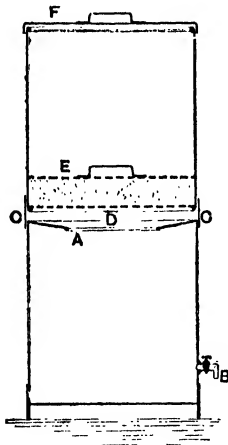

Fig. 486.—Oil Filter.
**Oil Filters.**—A simple oil filter may be made from two clean meat tins placed one above the other; in the upper tin, with a bradawl, punch a number of small holes, and over these spread a piece of flannel. A filter may be made from two tinplate vessels like a pan and steamer, the upper one fitting in a rim in the lower one, while a piece of flannel placed between the two vessels will serve to filter the oil. It may not clarify the oil perfectly at first, but will soon get into working order. A waste oil filter either can be an expensive article, or can be made from two empty tins as in Fig. 486. Make a  $4\frac{1}{2}$ -in. hole in the top of one as at A; solder a small cock B, or a piece of  $\frac{1}{2}$ -in. brass tube fitted with a proper plug  $1\frac{1}{2}$  in. from bottom. Solder a tin hoop c round the top to receive the other tin. This latter must have its bottom d perforated; do this with a stout darning needle broken in half and passed through a cork; make about sixty holes to the square inch. Cut out the top and perforate it also; then stand one tin on top of the other as shown in Fig. 486. Place in the top one a 2-in. layer of pine sawdust